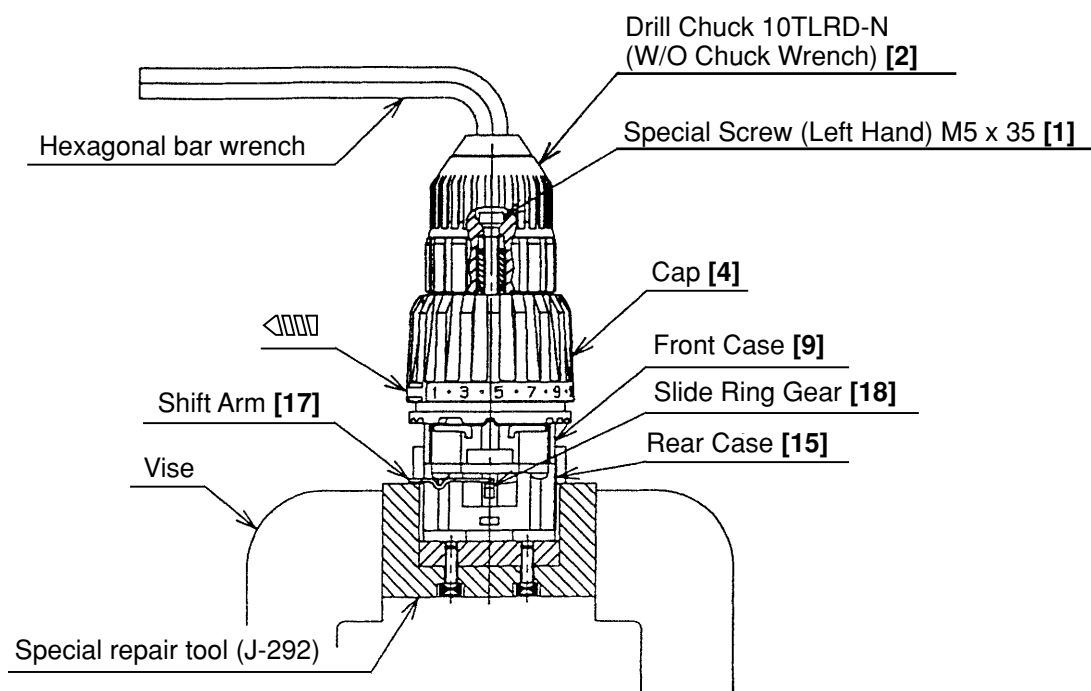

Fig. 4
(2) After Housing (B) has been removed, all the internal parts, assembled or separate, can be taken out as they are. Lift the entire contents from Housing (A) while holding the Motor **[26]** and the Cap **[4]**.
(3) Removal of the Drill Chuck 10TLRD-N (W/O Chuck Wrench) **[2]** (See Fig. 4.)
(b) Attach the motor spacer (an accessory of the special repair tool J-292, Code No. 316379) to the assembly of the Drill Chuck 10TLRD-N (W/O Chuck Wrench) **[2]**, Cap **[4]**, Front Case **[9]** and Rear Case **[15]** and then mount it in special repair tool J-292 clamped in the vise as illustrated in Fig. 4. In this operation, check that the pinion press-fitted in the special repair tool J-292 and Planet Gear (A) Set **[22]** are engaged properly.
(e) Fit the hexagonal bar wrench M10 into the Drill Chuck 10TLRD-N (W/O Chuck Wrench) **[2]** as illustrated in Fig. 4 and remove the Drill Chuck 10TLRD-N (W/O Chuck Wrench) **[2]** by turning the hexagonal bar wrench counterclockwise.